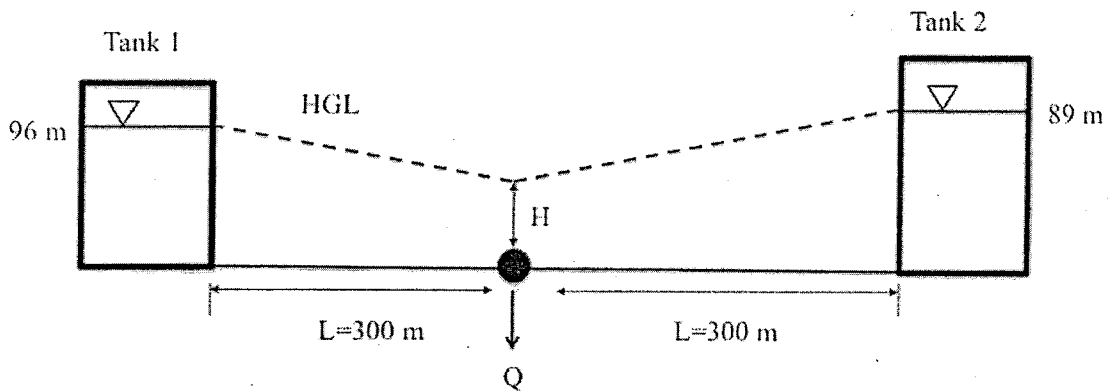

Figure 2. Water supply system.
4. Two elevated tanks supply water to a demand node with a valve at its outlet (Figure 2). The elevated tanks are cylindrical and have diameters of 5 m. The initial water level in Tank 1 is 96 m and the initial water level in Tank 2 is 91 m. The valve is half open and has a discharge coefficient of $0.15 \text{ m}^{5/2}/\text{s}$. The initial steady-state flow through the valve is 350 L/s. The valve discharges to the atmosphere. Both pipes have a Hazen-Williams 'C' factor of 100, an internal diameter of 300 mm, and a length of 350 m. Assuming quasi-steady conditions in the system, determine the pressure head at the demand node and the flow in the pipes in the first three time steps of the simulation. Use a time step of 15 seconds to carry out the quasi-steady state simulation.